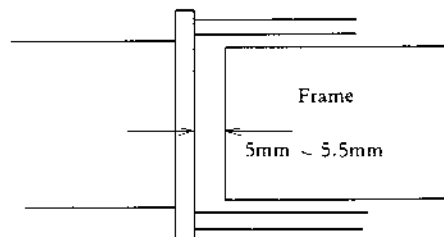

Fig. 16
- 1) When winding the mechanism, separation between the 2nd Curtain end and the frame edge should be 5 ~ 5.5mm. See Fig. 16.